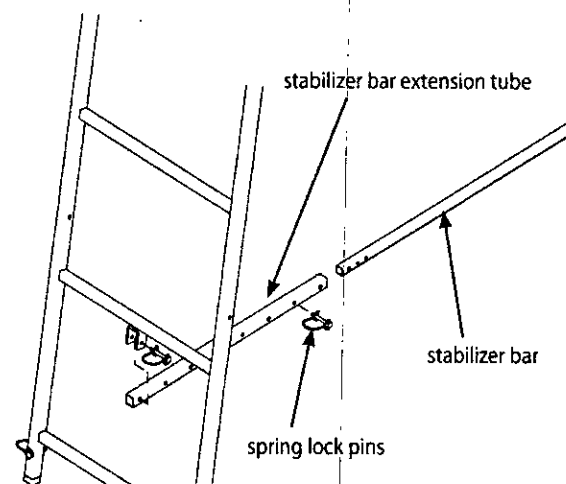

Figure 5
11. a. Attach the stabilizer bar extension tube (1ML23) to the second ladder section mounting bracket using (1) provided spring lock pin. **SEE FIGURE 5.**
b. Slide the stabilizer bar (L17) into the extension tube and attach the two pieces together using (1) provided spring lock pin. Spring lock pin must go through both the extension tube and the stabilizer bar at appropriate hole to achieve desired distance from tree. Adjustment in length may be needed when ladder is uprighted later in instructions. **SEE FIGURE 5.**